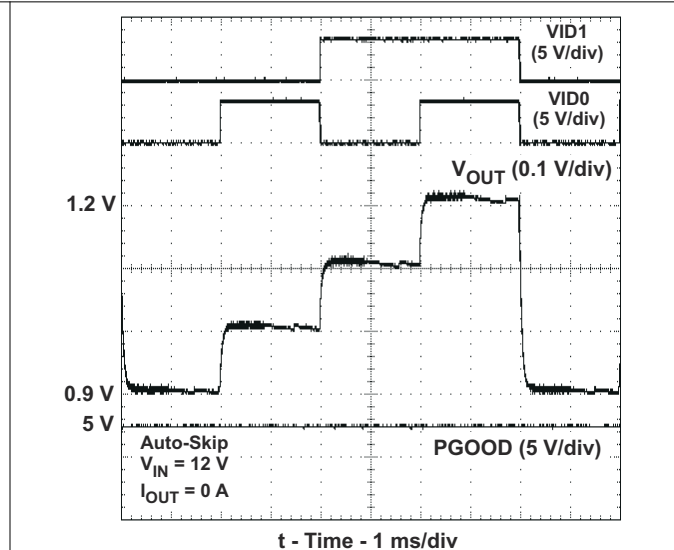

Figure 6-15. Output Voltage Step-Up
5. Run the pulse generator again. V_{OUT} steps up from 0.9 V to 1.2 V as shown in Figure 6-15.
Figure 6-1 through Figure 6-15 present typical performance curves for the TPS51217EVM-533.